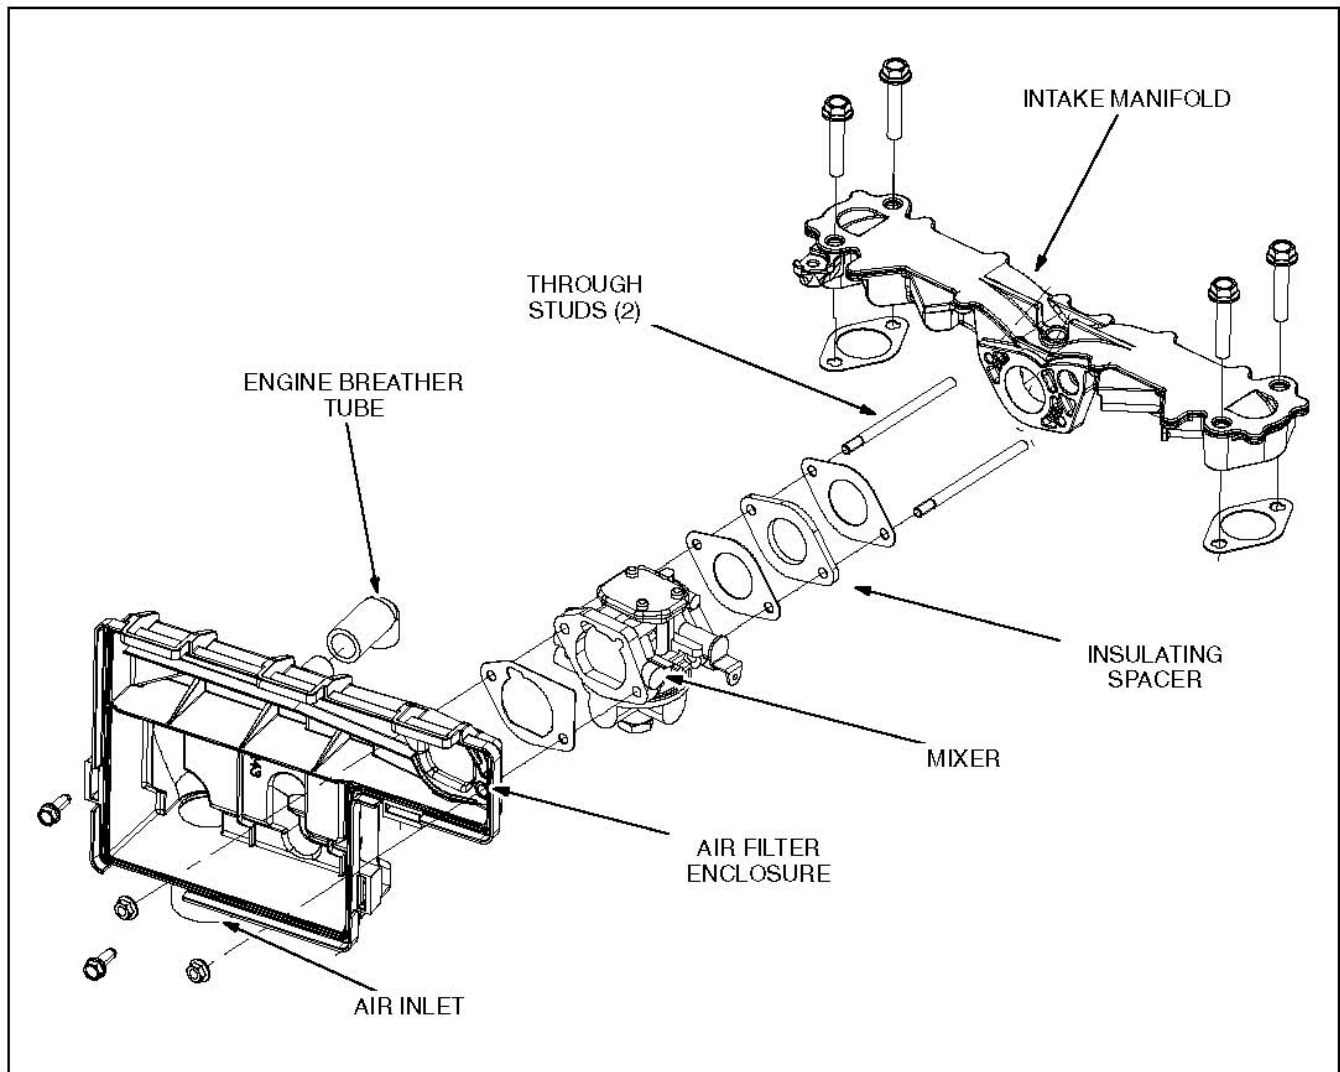
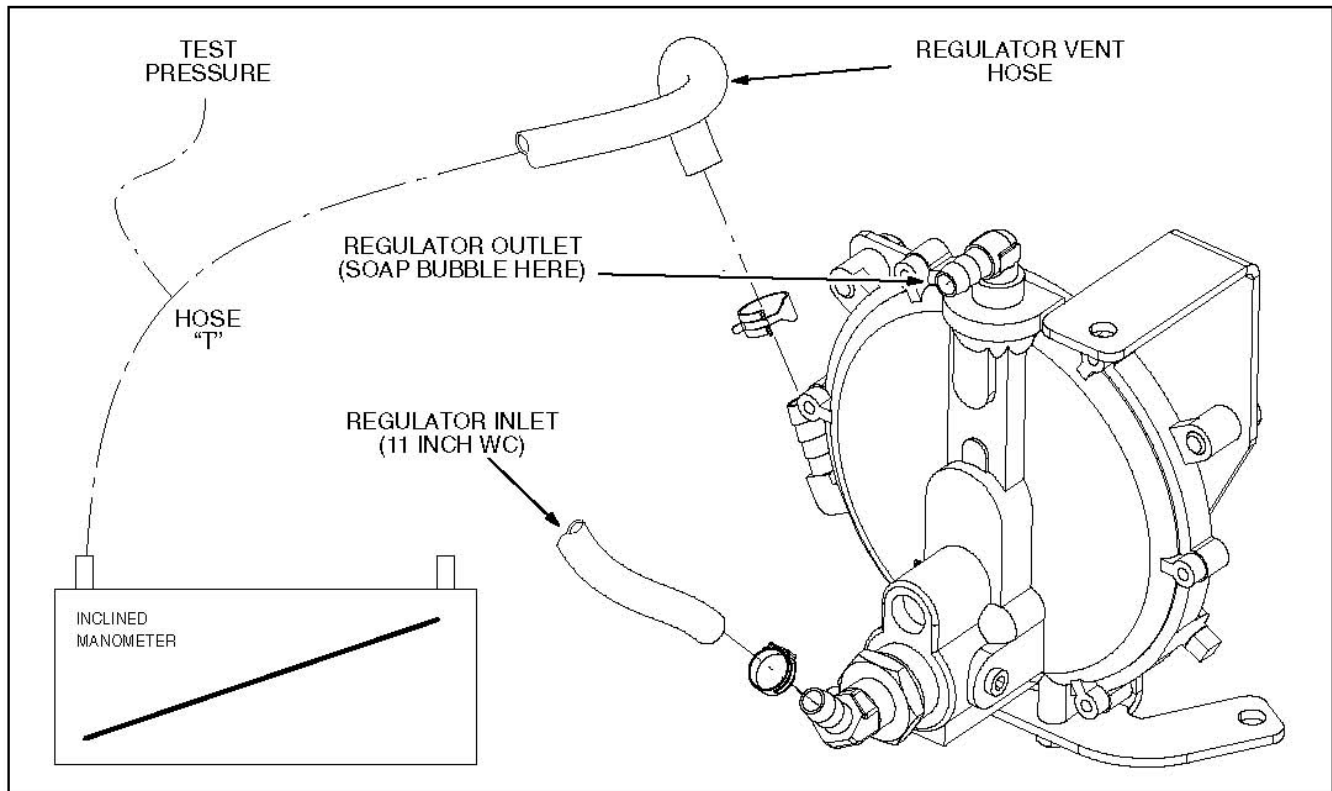

FIGURE 49. LPG MIXER AND INTAKE ASSEMBLY
FIGURE 50. LOW-PRESSURE LPG LOCK-OFF PRESSURE TEST
LPG and combustion air are mixed in the proper ratio in the mixer (Figure 49) for good starting and good performance over the entire load range. The demand regulator on Low-Pressure LPG Models (Figure 50) or the converter on High-Pressure LPG Models (Figure 52) meters LPG to the mixer in proportion to venturi vacuum. The mechanical governor (Section 8.4.3) operates the throttle in the mixer to maintain constant engine speed (within a range of 5 %) as load varies.
The mixer can be removed without removing the generator set enclosure. Referring to Figure 49, remove the mixer as follows:
Low-Pressure LPG Models have a demand regulator that meters fuel to the carburetor (Figure 50). It is usually not the cause of fuel system problems. All other possible fuel system problems should first be checked out. Then conduct a lock-off pressure test as follows before replacing a demand regulator.
1. Connect the regulator inlet (Figure 50) to a source of air pressure regulated to 11 inches WC (28 cm).